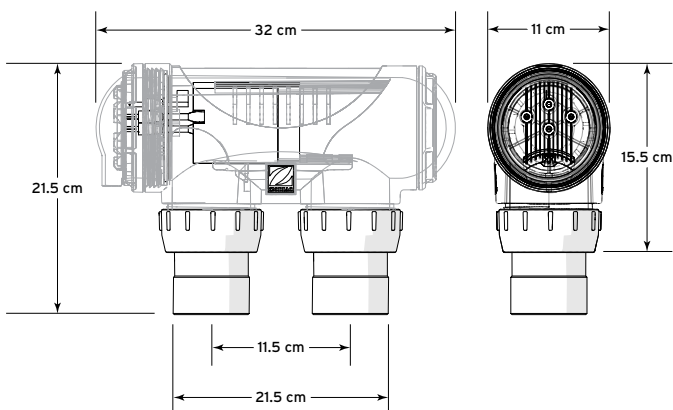

Figure 2. Electrolytic Cell Dimensions
2. Plumb the cell inlet and outlet on vertical lengths of 40 mm or 50 mm PVC pipe. The cell inlet and outlet ports are 11.5 cm apart, see Figure 2. The inlet of the cell is on the side closest to the electrical lead, see Figure 5.